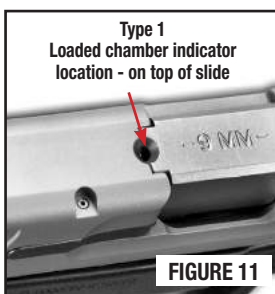

FIGURE 11
- Type 1: This indicator can be observed by looking at the top of the slide/ejection port, (FIGURE 11) noting an opening at the rear of the barrel hood. By looking into this opening, you can observe whether or not a round is in the firearm's chamber. If a round is in the chamber, you should be able to see the actual cartridge rim through this opening.